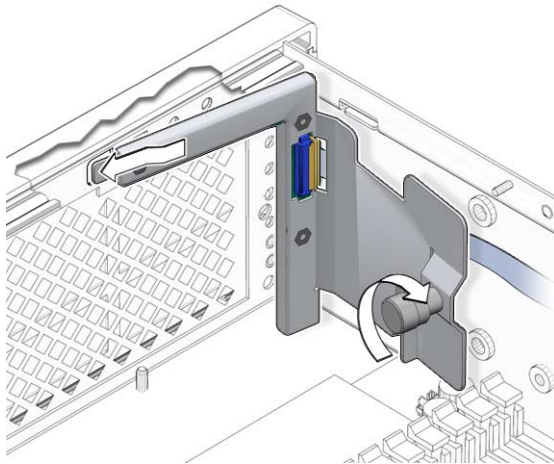

FIGURE 3-43 Inserting the LED Board Tab
3. Insert the tab on the LED board into the slot on the chassis (FIGURE 3-43).